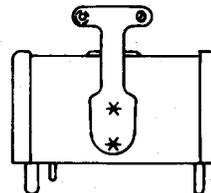

Fig. 9—KS-14671-Type Connector
2.05 **KS-14671-Type:** The KS-14671, L1 through L8, connectors (Fig. 9) consist of molded, rectangular blocks, equipped with 21 or 34 gold-plated, brass terminals. Two shouldered mounting screws are furnished to enable the body to float when mounted. The KS-14671-type connectors will mate with the KS-14672-type connectors. For more information, see Table C.